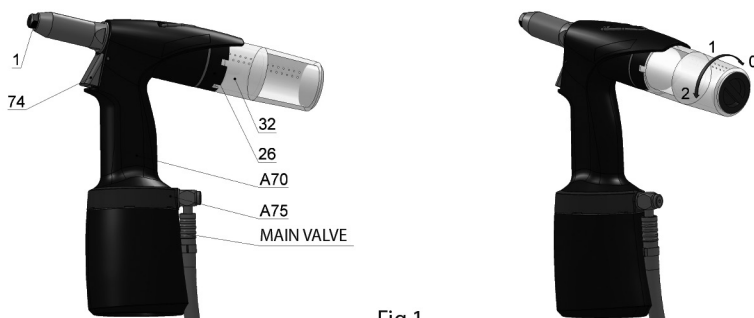

Fig.1
The manufacturer equipped the tool with a nose-piece /fig.1 – pos.1/ for a rivet Ø 5,0. Riveting with blind rivets of different diameters (further on referred to as BR) requires use of appropriate nose-pieces that are located in the accessories casing of the tool.
**Replacement of nose-pieces:** Connect the tool to the source of compressed air, depress the trigger and screw out the nose-piece /fig.1 – pos.1/ with a spanner no. 12. Screw on a new nose-piece /acc. to the chart/ and tighten it. Now you can release the trigger of the tool.
The tool is equipped with revolving air supply /fig.1 – pos.A75/ which enables manipulation with air supply before as well as during tool operation, air hose does not obstruct riveting in any position.
The tool is equipped with multifunction trigger /fig.1 - pos.74/ which enables following:
- Unlock the trigger (shifting the trigger down to the stop) and release it. The suction is switched on and the trigger is in position see fig. 1.
The tool is equipped with a multifunctional mandrel container /fig.1 - pos.32/ which has the following positions:
Put and push the mandrel container /fig.1 - pos.32/ into the ring relief /fig.1 – pos.26/ end-to-end, thus you depress the arrestment element, and turn to position 1 or 2. The mandrel container shall thus be in place. The suction shall initiate in position 2. Relative position of the mandrel container with air outlets /fig.1 - pos. 32/ and the ring relief /fig.1 – pos.26/ ensures that the outlet air pressure goes out in a suitable direction (e.g. offward the operator of the tool).
Turn the mandrel container /fig.1 - pos.32/ end-to-end to position 0 and pull it out of the ring relief /fig.1 – pos.26/. The suction shall thus switch off.
Suction switches off by turning and removing the mandrel container /fig.1 - pos.32/. Insert BR into the riveting tool through the nose-piece hole. Depress the trigger to move the jaws offward the BR head. The movement ends when reaching max. stroke, correct BR with respect for material gauge shall tear off the shank (riveting) for one stroke of the tool. Releasing the trigger shall return the jaws to initial position and released torn-off shank can be removed from the nose-piece by tilting the tool. /fig.1 - pos.1/.
Mounting and turning the mandrel container /fig.1 - pos.32/ to position 1 shall arrest it. Insert BR into the riveting tool through the nose-piece hole. Depress the trigger to move the jaws offward the BR head. The movement ends when reaching max. stroke, correct BR with respect for material gauge shall tear off the shank (riveting) for one stroke of the tool. Releasing the trigger shall return the jaws to initial position and the released torn-off shank can be transported into the mandrel container by tilting the tool.
Suction switches on by turning the mandrel container /fig.1 - pos.32/ to position 2. In this position the suction holds BR in the nose-piece /fig.1 - pos.1/ which enables riveting in any position without danger of BR falling out of the nose-piece of the tool. Depressing the trigger shall perform riveting. Releasing the trigger shall transport the shank into the mandrel container. If the mandrel container